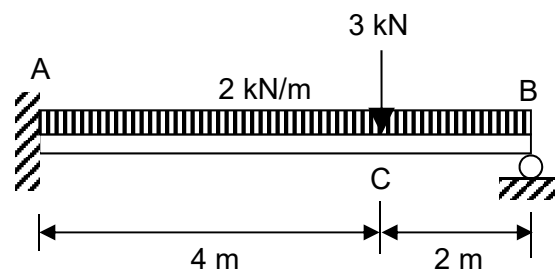

Figure 2/Rajah 2
2. A concrete beam as shown in **Figure 2** is subjected to a uniformly distributed load of 2 kN/m along span AB and a concentrated load of 3 kN at C. The beam that has a cross section of 150 mm width by 300 mm depth is fixed at A and the support at B is a roller. The modulus of elasticity of the beam is 30 GN/m².